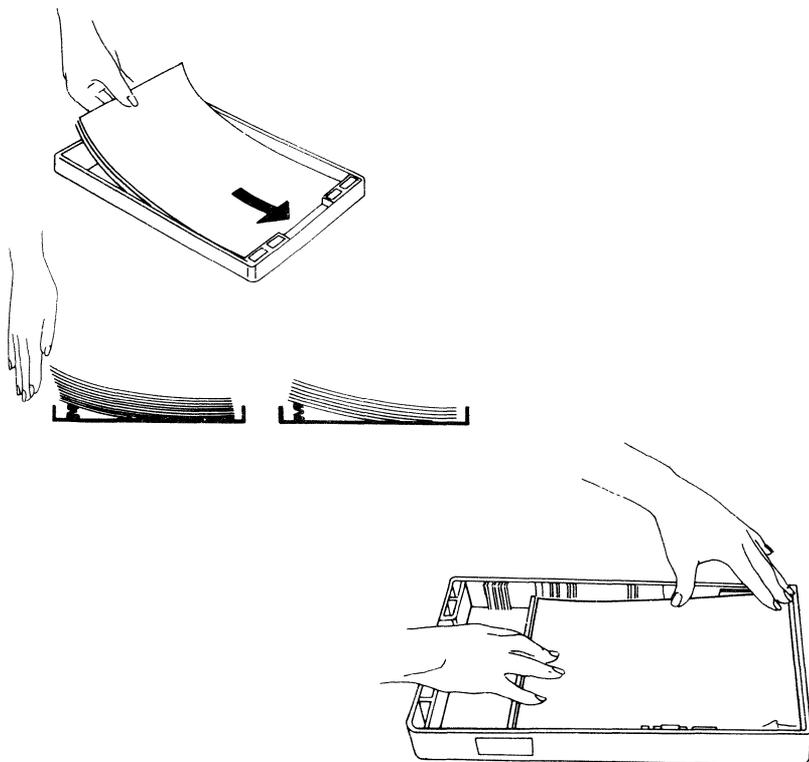

Figure 10: Inserting Paper into the Paper Cassettes
2. Place paper into the cassette and push the paper under the paper-control clips. (See Figure 10.)